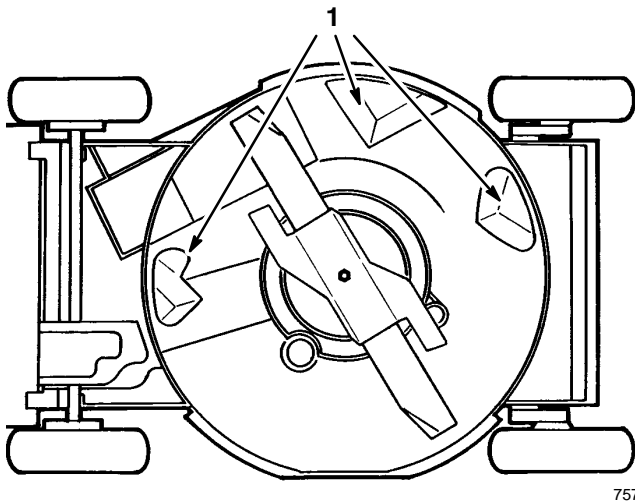

Figure 31
Keep underside of mower housing clean. Be especially careful to keep kickers free of debris (Fig. 31).
3. Tip mower on its left side (Fig. 31).